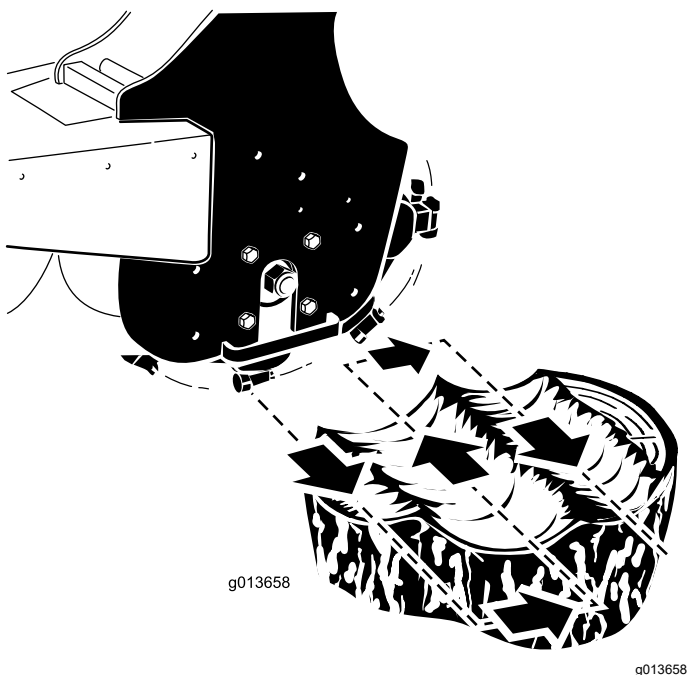

Figure 13
4. Position the grinder on the left side and behind the stump (Figure 13).
5. Swing the grinder toward you using the attachment-tilt lever, grinding at a depth of 0.5 to 5 cm (1/4 to 2 inches), depending on the hardness of the wood (Figure 13).
6. Swing the grinder back out (Figure 13), lower it 0.5 to 5 cm (1/4 to 2 inches), and repeat steps 4 through 6 until you have ground down a few inches.
8. Move the grinder to the right (Figure 13).